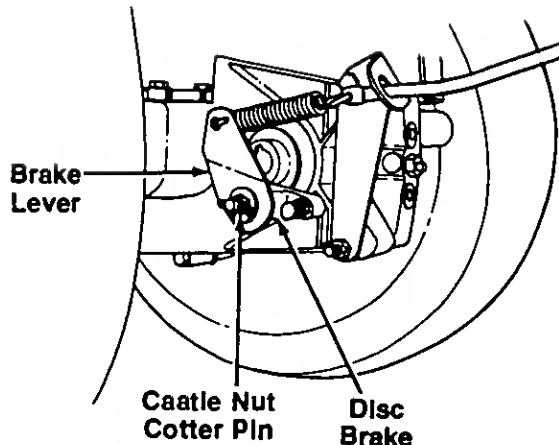

FIGURE 16.
**NOTE:** Figure 16 is shown with the unit tipped up on rear wheels for clarity only.